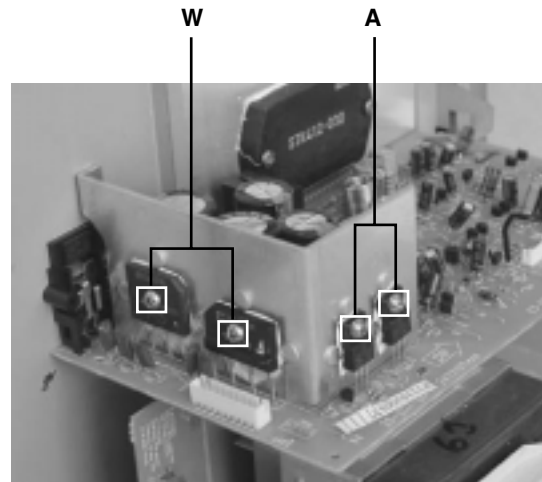

Fig.28
■ Removing the 3-pin regulator and bridge diode (See Q904, Q907, D901, D914 and Fig.28)